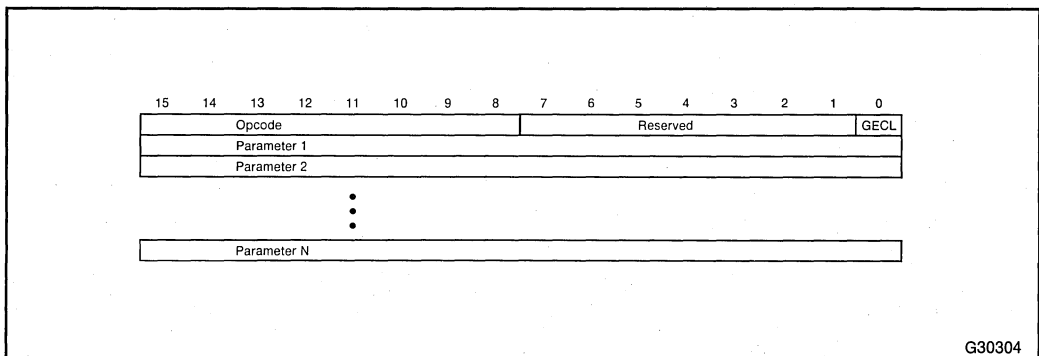

Figure 2-5. Graphics Command Format
The Graphics Processor (GP) processes Graphics Command Blocks (GCMBs), consisting of memory-resident commands. The GP runs only when an application needs to change the bitmap contents or support a special function such as picking (see Section 2.6.5). Figure 2-5 shows the format of a graphics command.